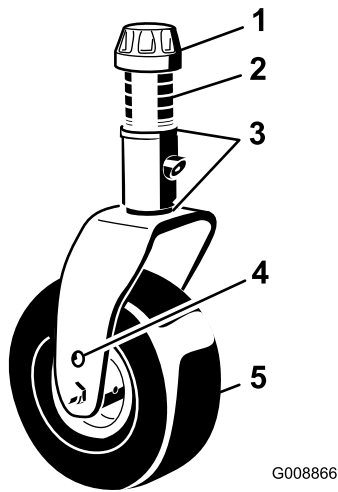
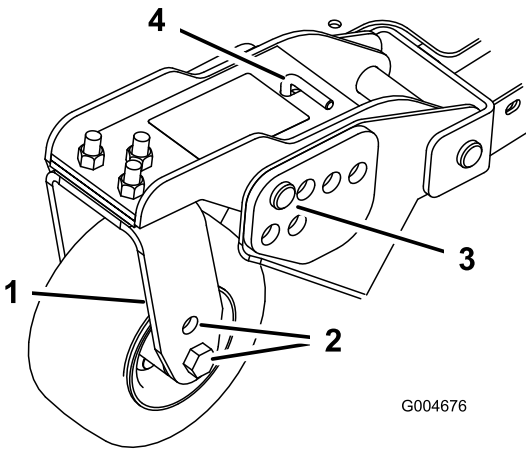
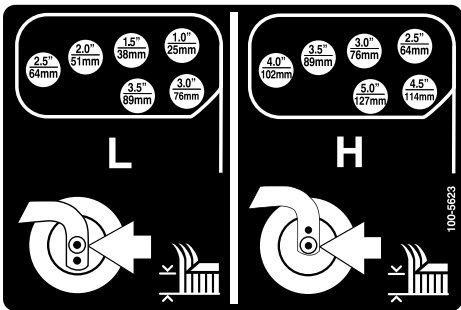

Figure 21
Figure 23
Figure 24
- 1. Position the castor wheel axles in the same holes in all of the castor forks (Figure 21 and Figure 23). Refer to the following chart to determine the correct hole for the setting.
- 2. Remove the tensioning cap from the spindle shaft (Figure 21) and slide the spindle out of castor arm. Put the two shims (3 mm [1/8 inch]) onto spindle shaft as they were originally installed. These shims are required to achieve a level across the entire width of the cutting units. Slide the appropriate number of 13 mm (1/2 inch) spacers onto the spindle shaft to get the desired height-of-cut; then slide the washer onto the shaft.
- 4. Remove the hairpin cotter and clevis pins from the castor pivot arms (Figure 23).
- 5. Rotate tension rod to raise or lower pivot arm until holes are aligned with selected height-of-cut bracket holes in the cutting unit frame (Figure 23 and Figure 24).